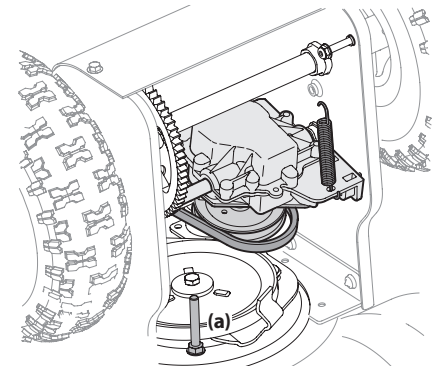

Figure 4-20
- Tip the snow thrower up and forward so that it rests on the auger housing. Remove the belt keeper (a). See Figure 4-20. Return the snow thrower to its upright position to complete the following steps.